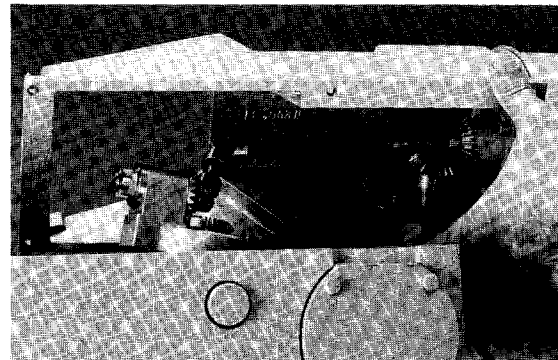

Fig. 58
The AE actuator is linked to the oscillating housing by universals and a reciprocating shaft. (Figure 58). There is also an external handwheel which can be engaged for manual adjustment.
3. Hold the cover over the pump and carefully insert the shaft into the actuator as you lower the cover in place, (Figure 58). Be sure the stroke length indicator remains at zero.